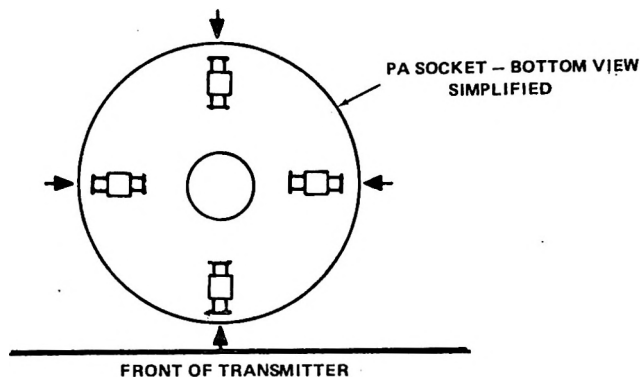

Figure 5-6. PA Socket, Cathode Return Capacitors
5. PA CATHODE RETURN CAPACITORS Loosen only the screws indicated by an arrow on C53, C58, C59 and C60. (100 pf door knob capacitors). Do not loosen screws near the center of the socket. Set all four capacitors the same way. A small mirror or "feeler gauge" is helpful. Refer to Figures 5-6 and 5-7.